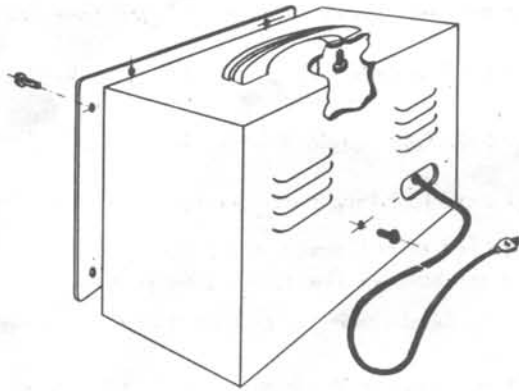

Fig. 11
11) Mount the handle on the cabinet with two #10-24 screws as shown in Fig. 11.
12) Run the a-c line cord through the rear cabinet opening and insert the completed unit in the cabinet. Align the hole in the cabinet rear and the hole in the rear chassis apron and insert 1 #6 P.K. screw. Then align the 8 panel holes with the corresponding holes in the cabinet flange and insert 8 #6 P.K. screws. Tighten all screws. See Fig. 11.